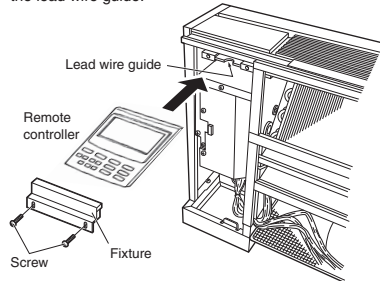

Fig. 3-117
- (2) Remove the front panel. Remove the screws and fixture. (Fig. 3-117)
- (3) Place the remote controller into the space in the unit as shown in Fig. 3-117. Assemble the lead wires of the remote controller to its rear side center and route them to the lead wire guide.